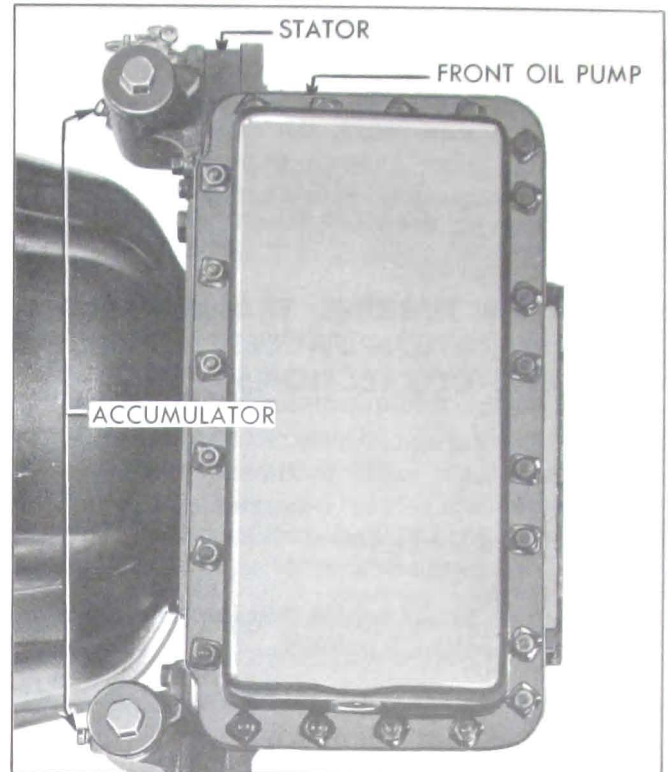

Figure 5-26—Gauge Connections for Oil Pressure Tests
Remove pipe plug at the following points in turn and connect Pressure Gauge J 2575. (1) Front oil pump, on left side of transmission case. (2) High or low accumulator, on front upper corner of accumulator body. (3) Stator, on left end of reaction shaft flange. See Figure 5-26.